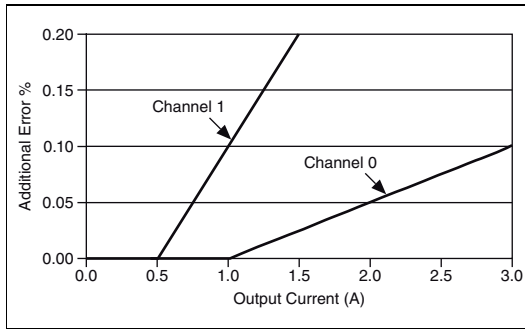

Figure 2. Accuracy Derating Versus Load Current
[†] For currents ≥ 1 A, refer to the additional derating in Figure 2.
* For currents ≥ 1 A, refer to the additional derating in Figure 2.
† For currents ≥500 mA, refer to the additional information in Figure 2.